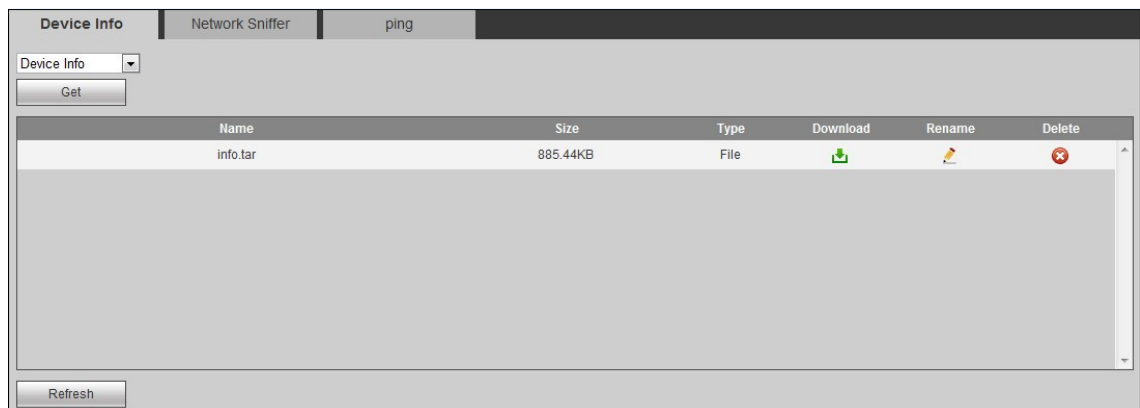

Figure 4-114
Step 2 Select "Device Info" or "Subcard Log" and click "Get". The system displays corresponding device info or subcard log, as shown in Figure 4-114.